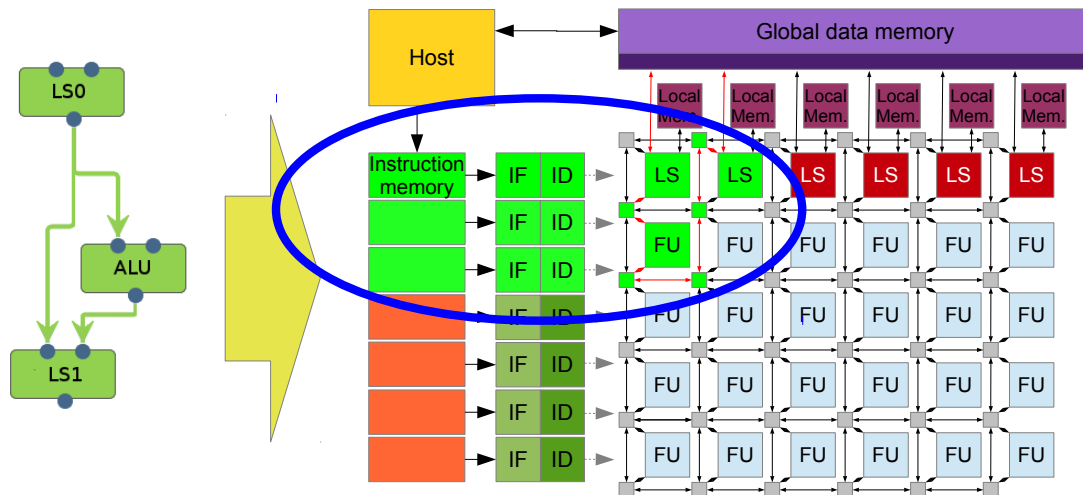

Figure 2: CGRA architecture overview and example data-path mapping
As mentioned before CGRA means Coarse Grained Reconfigurable Architecture. This architecture differs from 'normal' CPUs by it's ability to reconfigure the processor data-path. This allows design a different processor for every application that you plan to run on it. When you start your application your processor design will be instantiated on the chip and execution of your application will start. Figure 2 shows what the CGRA architecture looks like and how a example data-path could be mapped onto it.
As you can see in figure 2 there is a grid of functional units (FU) that are connected to small grey boxes. These boxes are called switch-boxes and are used to route data from a specified input to a specified output to make connections between FUs. The routing is static for an application to reduce power consumption. In the architecture description, we will talk about this later, these connections can be specified. In order to reduce simulation time and make debugging a bit less difficult we will ignore the switch-boxes in this assignment and make direct connections instead⁶.